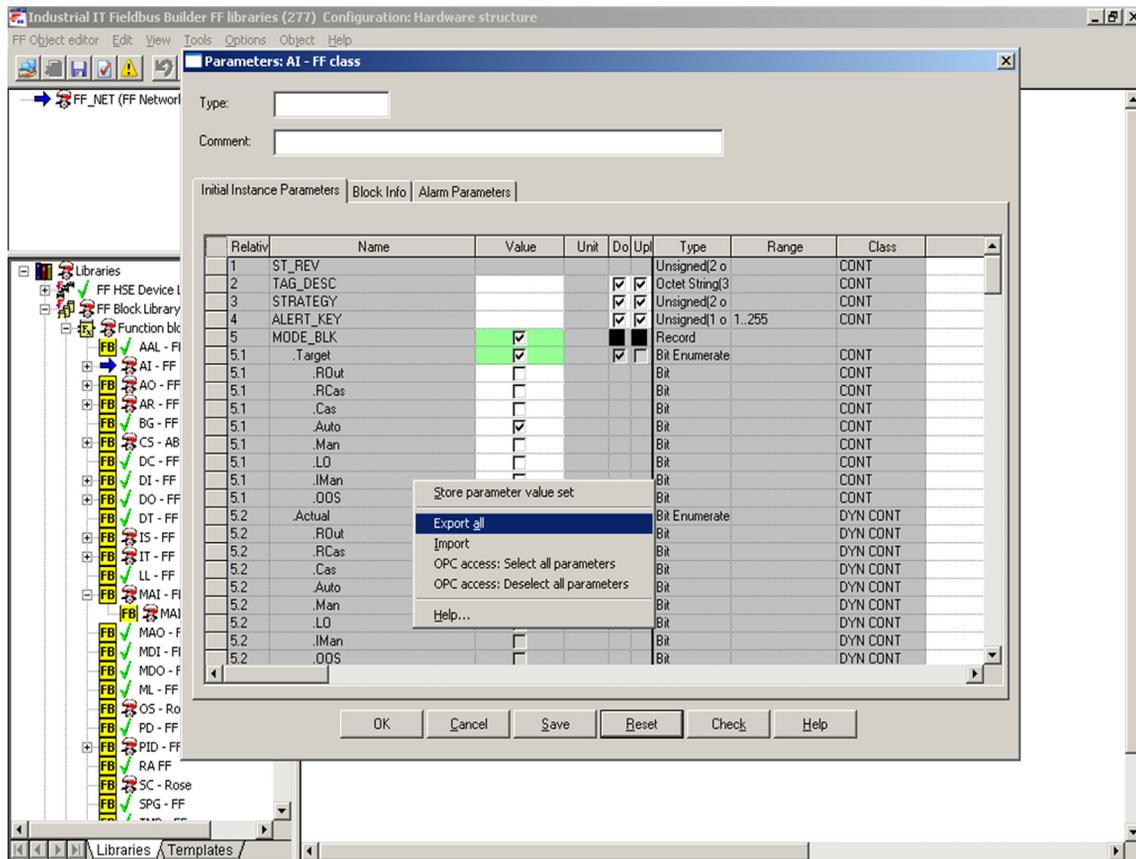

Figure 37. Exporting Locally Stored Parameter Value Sets
- Right-click and select **Export** from the context menu (Figure 37).